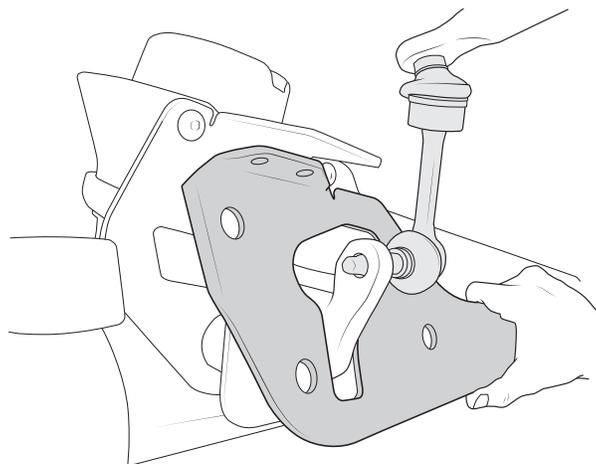

Figure 18
- d. Position the forward track bar bracket and insert the sway bar links back in the factory location and torque to **110 ft-lbs** before installing any hardware (fig. 18).
d. Torque all hardware at this time (fig. 18) **EXCEPT: Coil Spacer hold down bolts and frame-side track bar bolt.**